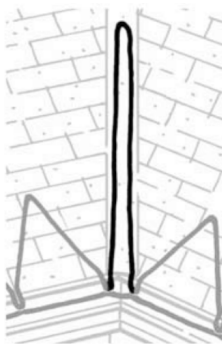

Figure 6. Cable pattern in a valley
- Pattern for valleys: If a valley exists in a problem area of your roof, you must route cable up and back down the valley a minimum of 3 feet, as shown in Figure 6. Extend the cable higher if the warm area of your roof is higher.